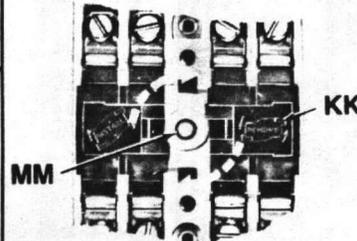

Figure 9
- Place latch rod assembly (MM) on T-bar actuator (Figure 9) and rotate 90° clockwise to lock under mounting feet on T-bar actuator.